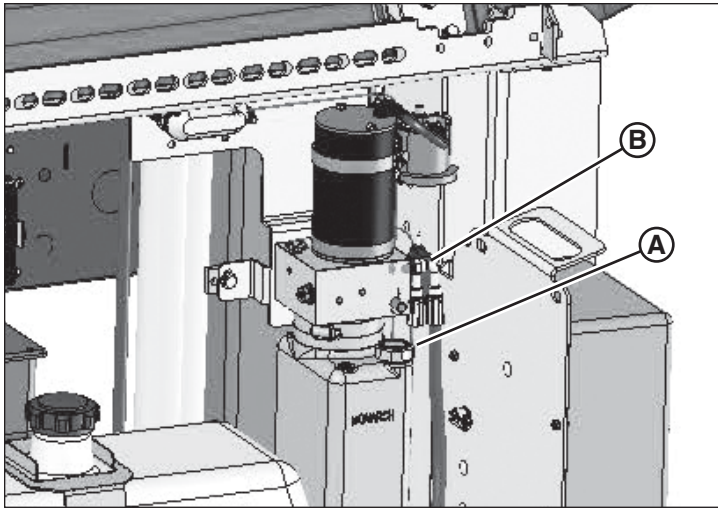

Figure 36
Fill the reservoir (Figure 36) with automatic transmission fluid or any clean hydraulic fluid having a viscosity index that is suitable for the climate conditions in which the unit will be operated. Refer to the preceding table.
1. Make sure that the oil reservoir (A, Figure 36) is filled with oil to the full mark.
3. Loosen the hose end (B, Figure 36) to allow oil and air to escape.